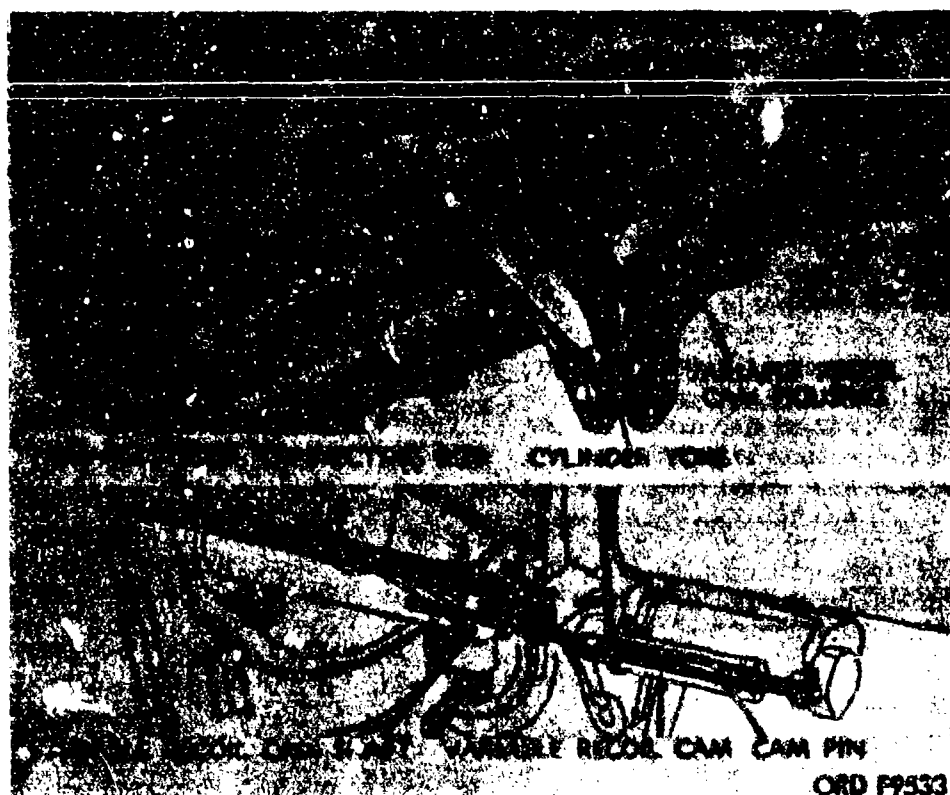

Figure 2-17. Variable recoil cam.—assembled and phantom views.
(2) *Variable.* A variable recoil mechanism has a mechanical means of changing the length of recoil. This change is accomplished automatically by the variable cam assembly (fig 2-17) as the tube is elevated or depressed. This type of action allows the tube to recoil over a longer length at low angles of elevation but reduces the length at higher elevations without creating unnecessary displacement of the carriage. Thus, we have a much more reliable and stable firing platform from which to fire at all angles of elevation.
angles of elevation, all the throttling grooves, or orifices, are open so that the barrel and breech assembly is allowed to recoil over a long distance, providing less shock to the carriage. As the weapon is elevated to higher angles of elevation, the length of recoil is shortened so that the barrel and breech assembly will not strike the ground and the force of recoil can be absorbed more directly by the carriage and the ground. A typical variable cam assembly is shown in figure 2-17 and explained in para *a* below.